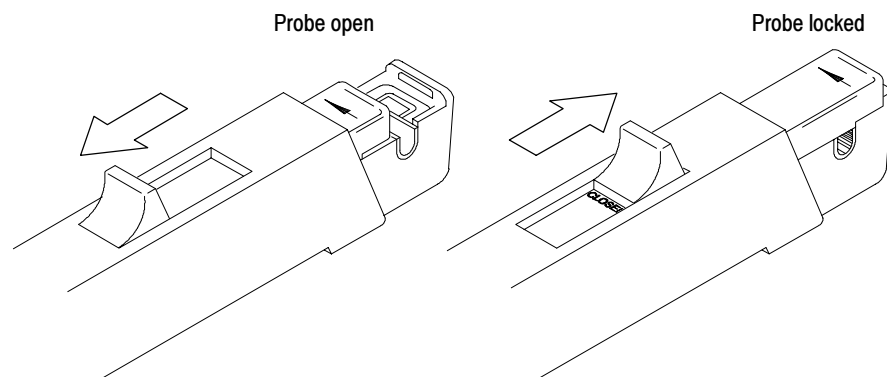

Figure 2: Operating the probe slide
| Figure 2: Operating the probe slide | 3 |
Figure 2 illustrates the slide operation of the probe. To open the probe, pull the slide back until the jaw is open. To lock the probe, push the slide forward until the detent snaps into place.
3. Lock the probe slide closed (see Figure 2).